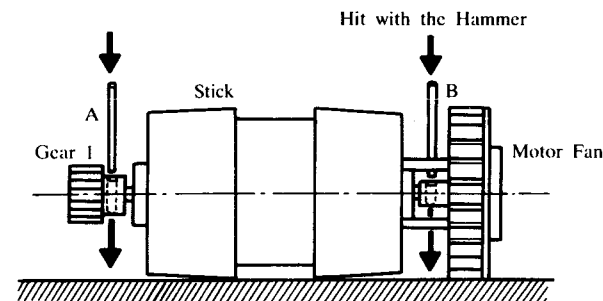

Fig. 21
- (2) Take out the Spring pin (AW 2.5) by using the stick ( $\phi = 2.0$  m/m) and the hammer. The Gear 1 will come off. (Refer to A in Fig. 21)
- (3) Take out the Spring pin for the Fan in the same way as the step (2). (Refer to B in Fig. 21)